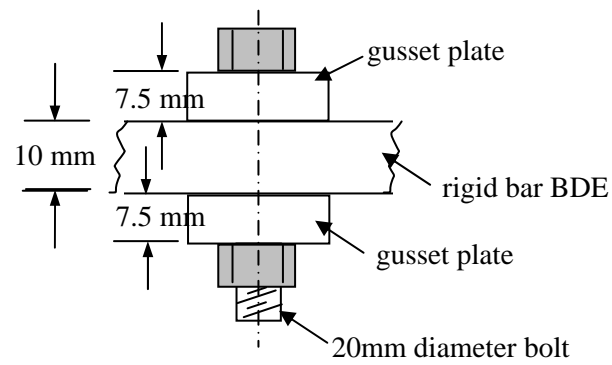

Figure 2
2. a) Figure 2(a) shows the Mohr's circle for the stressed element shown in Figure 2(b). Using the Mohr's circle given, determine the normal and shear stress on the inclined plane m-m indicated in Figure 2(b). Provide the solution to your answer on Attachment I.